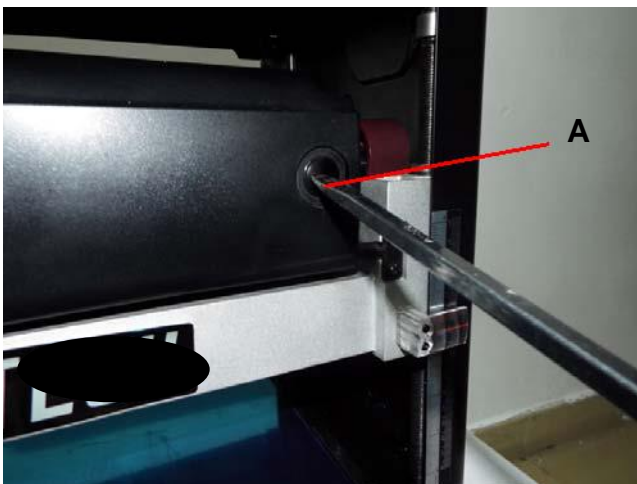

FIG 14
1. Remove the brush holders, one of which is shown at (A). The other is located in the same position on the rear of the motor assembly. The Brush Holder can be removed using a flat blade screwdriver. SEE FIG. 14.